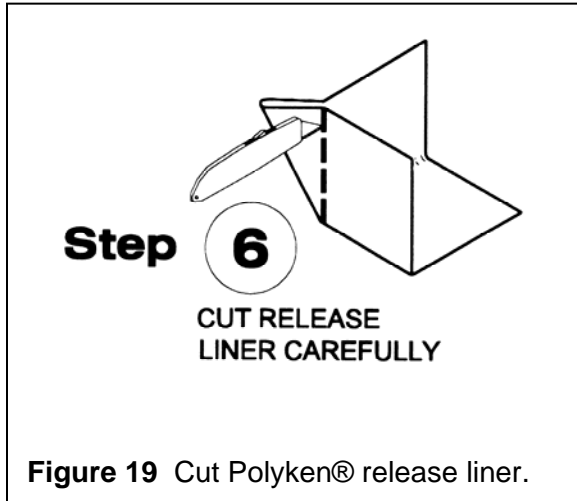

Figure 19 Cut Polyken® release liner.
Step 6. Cut the release liner along one side of the triangular shape. See Figure 19.